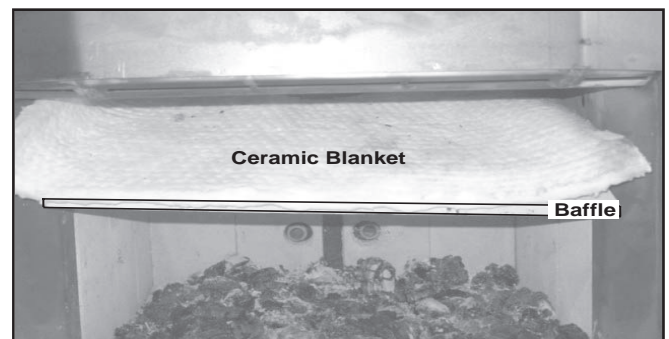

Figure 27.2 - Baffle & Ceramic Blanket on top.
5. Slide fiber board baffle forward to front of stove and straight out through door. **Figure 27.2.**